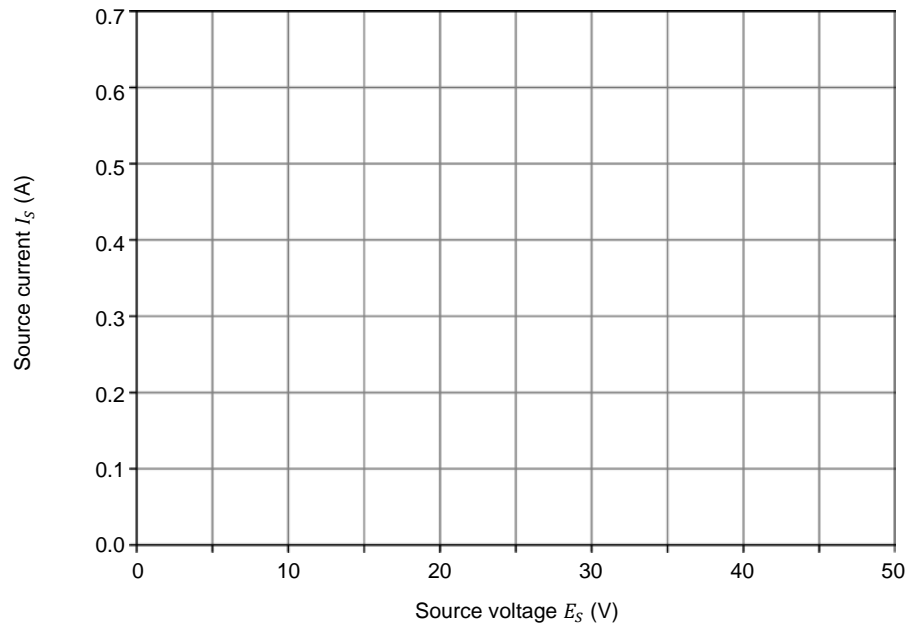

Figure 14. Source current  $I_S$  as a function of the source voltage  $E_S$ .
10. From the results recorded in Table 1, plot in Figure 14 the source current,  $I_S$ , as a function of the source voltage,  $E_S$ .